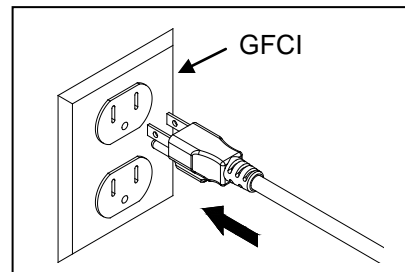

Fig. 13
13. Connect the pump to a proper power source. Fig. 13